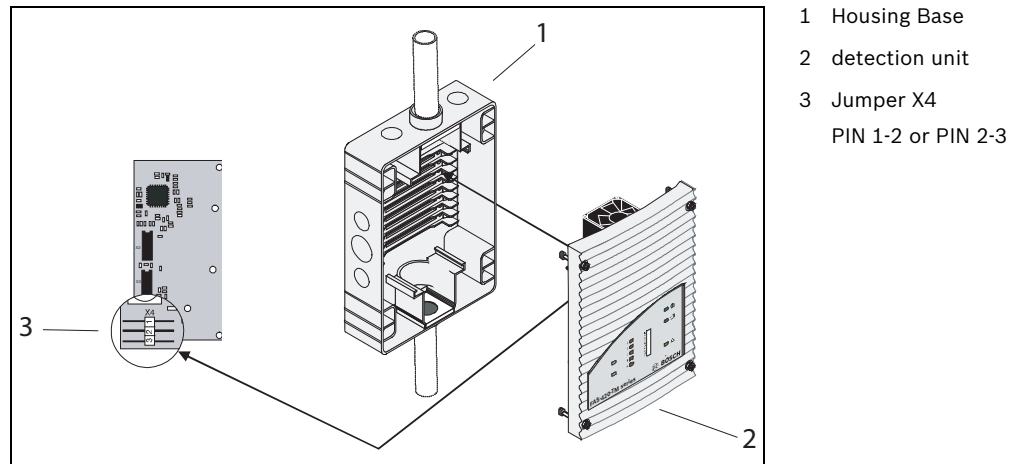

Figure 6.1 Inserting the detection unit into the housing base
2. Replug the X4 jumper when inserting the detection unit (PIN 1-2 or PIN 2-3, or vice versa). Replugging will cause airflow calibration to be carried out automatically (see *Figure 6.1*).